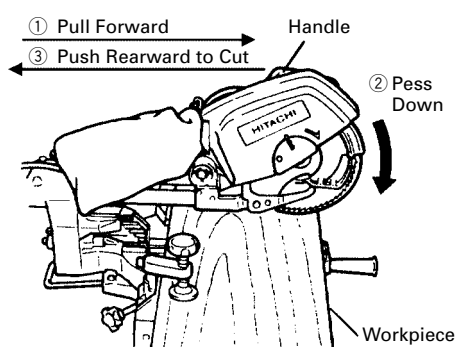

Fig. 22
Then press down on the handle and slide the saw blade back to cut the workpiece as indicated in Fig. 22. This facilitates cutting of workpieces of up to 2-9/16" (65mm) in height and 12" (305mm) in width.
**⚠ WARNING:** \* For slide cutting, follow the procedures indicated above in Fig. 22. Forward slide cutting (toward the operator) is very dangerous because the saw blade could kick upward from the workpiece. Therefore, always slide the handle away from the operator.